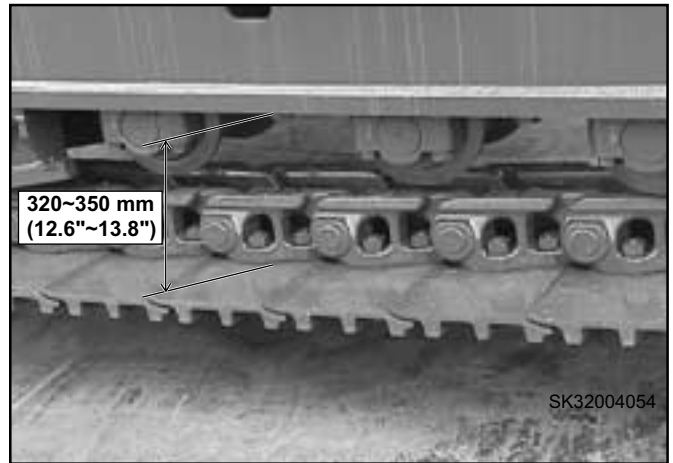

FIGURE 4.20B
2. Measure the sag in the center of the track, between the bottom of the track frame and the track shoe surface. See Figure 4.20B.